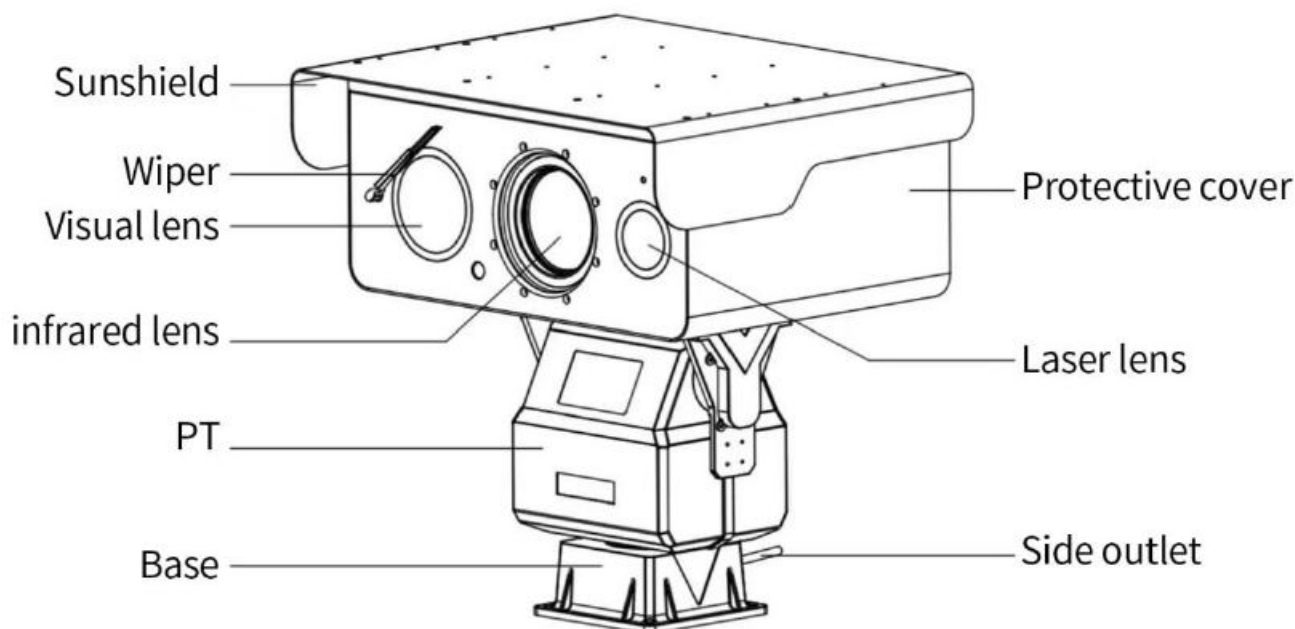

Figure 2.1 Appearance of Dual-spectral PT Network Camera
2. Product Appearance Refer to figure 2.1 for PTZ structure.